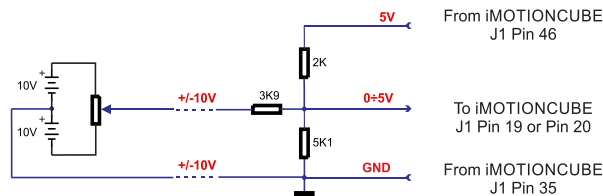

Figure 3.14. +/-10V to 0-5V adapter
1. Default input range for analog inputs is 0÷5 V for REF and FBDK. For a +/-10 V range, see Figure 3.14.